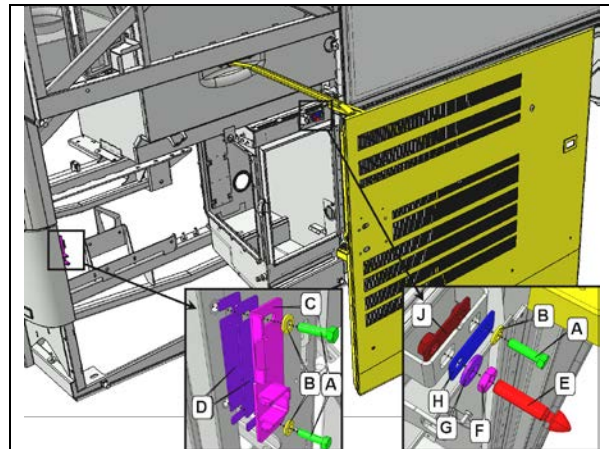

FIGURE 104: DOOR INSTALLATION – LATCH SYSTEM
1. To adjust the position, the door must be free to move without any restriction. For this reason, remove pin E and stripe plate C (**FIGURE 104**).